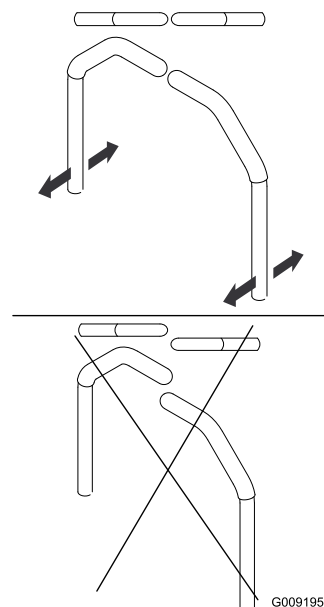

Figure 79
4. Align the levers front to rear position by bring the levers together to the neutral position and slide them until they are aligned, then tighten the bolts (Figure 79).